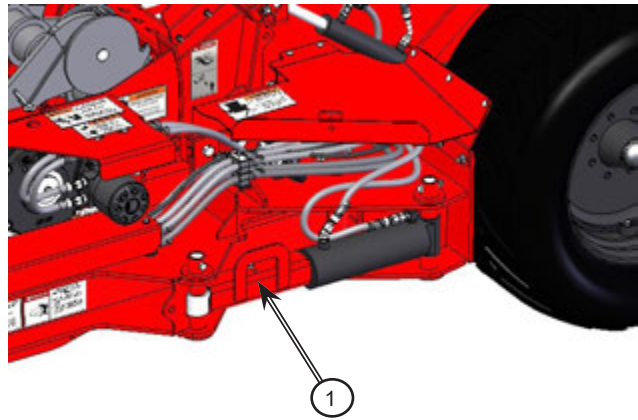

Figure 6.12: Install the hitch transport lock
3. Install the hitch lock (1) onto the hitch cylinder rod; see *Figure 6.12*.